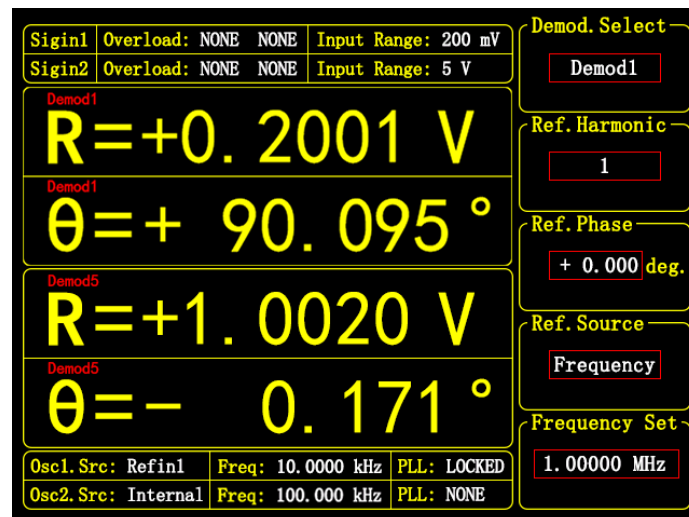

Figure 51. <Frequency> mode interface
- <Frequency> : Sets the reference source of the current demodulator to an independent demodulation frequency. The interface for this mode is shown in Figure 51.